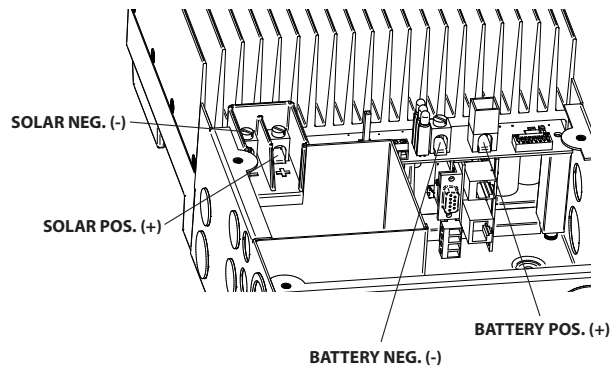

Figure 3-14. Power Terminal Locations
Connect the four (4) power conductors shown in figure 3-14 as described in the following steps:
8. Connect the battery (-) wire to the battery (-) terminal on the TriStar MPPT 600V. See Figure 3-14.
9. Torque 5/16 in. power terminal screws to 50 in-lbs (5.65 Nm). Replace cover, and secure with four (4) screws.